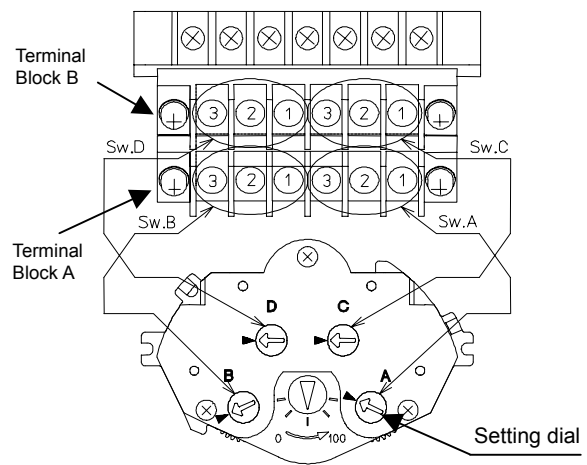

Figure 6. Setting example of the auxiliary switch with its position set to 50 %
6) Setting of the auxiliary switch operating position (Fig. 6 shows a setting example of the switch operating at a 50 % open position position.)
- (1) Set the setting dials of the auxiliary switch to the position where you want the switch to operate, by motor-driven operation. Then, using a slotted screwdriver, turn the setting dial until its arrow points at the the position with ► marked. (See Fig. 6.)
- (2) Operate (open and close) the control motor several times near the preset position to confirm that the switch works normally.